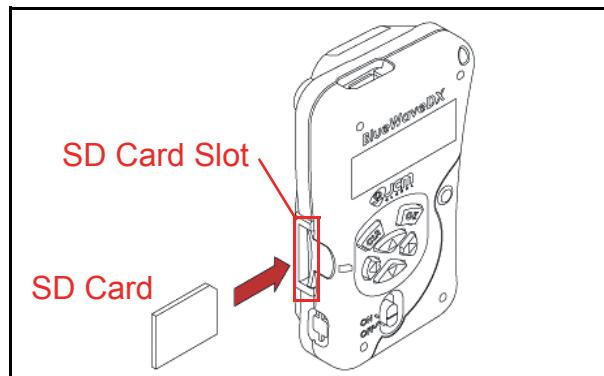

Figure 8 SD Card Insertion (DT-300)
- Slide the SD Card into the Unit in the direction indicated by the Red Arrow shown in Figure 8 until it “clicks” in place.